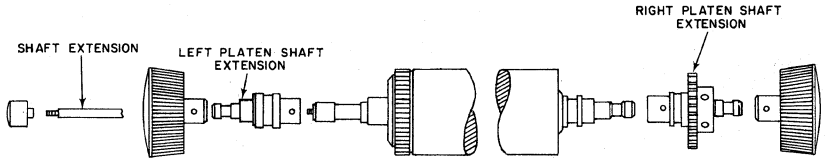

Figure 8
1. Remove the platen variable button (using T-18075) and platen knobs (Figure 8). Leave the collars on the platen shaft in place. Install the platen shaft extensions and reinstall the platen knobs. Tighten the set screws and be sure that the collars on the platen shaft rotate freely.